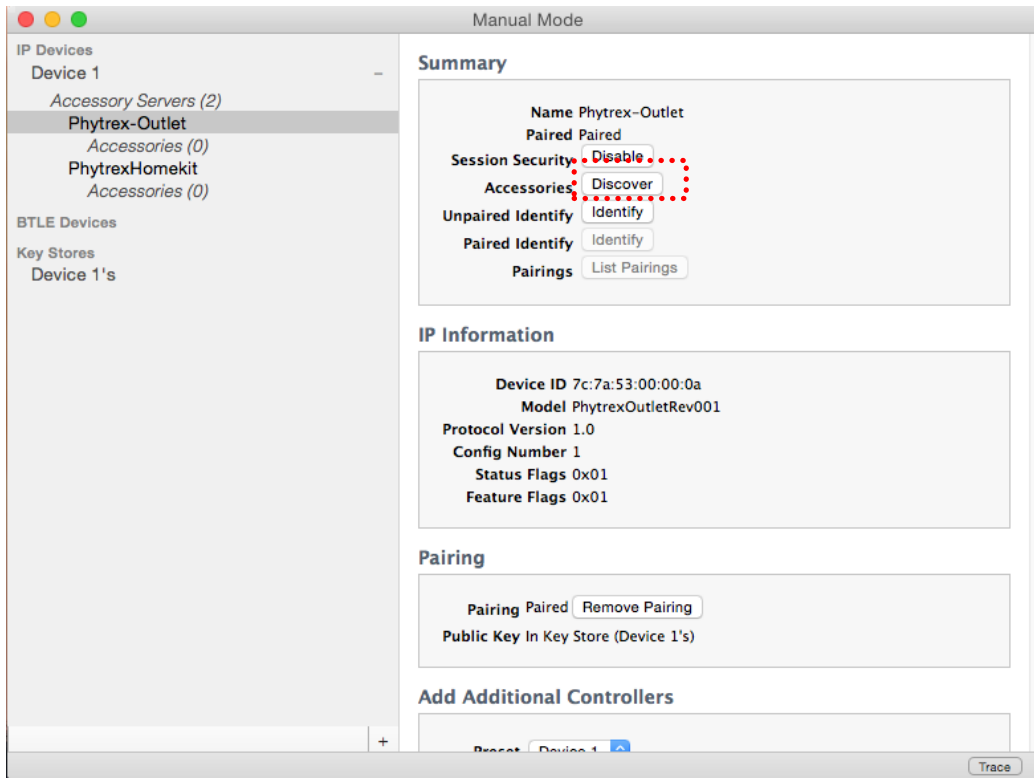

Figure 33: Discover the Accessory
- Step 6 : Click “Discover” to check the profile under the Accessories category, it will display on the left side for relative service profile and characteristics. (Figure 33 and 34)